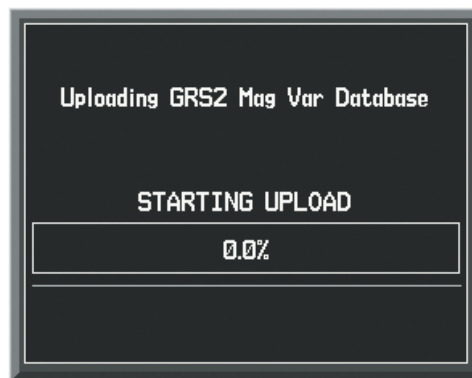

Figure B-15 Uploading Database to GRS2
- 3) With 'OK' highlighted, press the **ENT** Key on the MFD. A progress monitor is displayed as shown in Figure B-15. When the upload is complete, the system is ready for use.